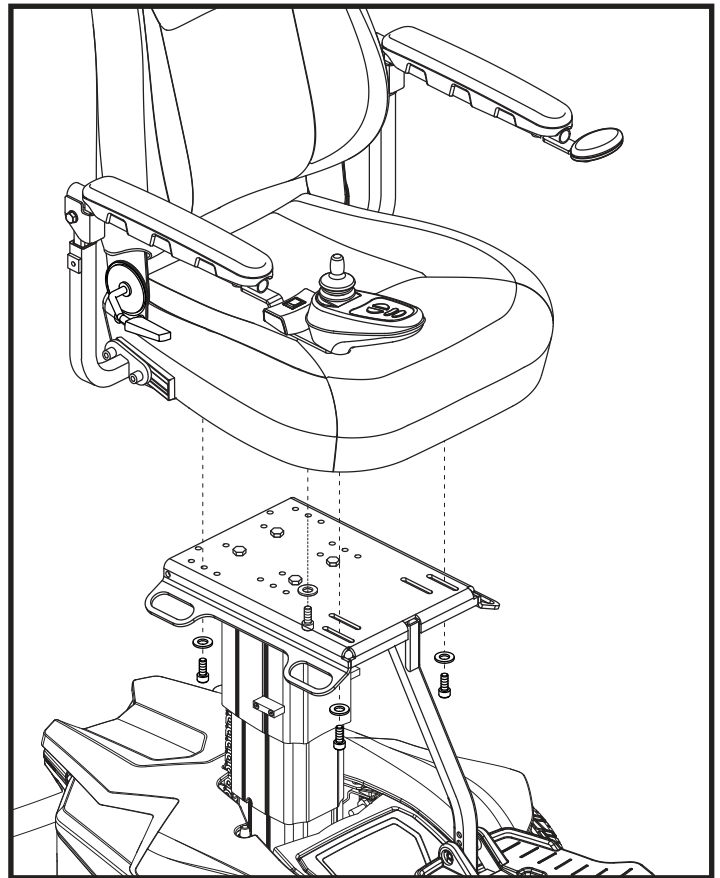

Figure 9. Seat Installation
9. Tip the seat backward. Insert the front bolt with washer through the slot in the seat plate and align with tapped hole in the underside of the seat. Start tightening by hand, leaving the bolts loose. See **figure 9**.